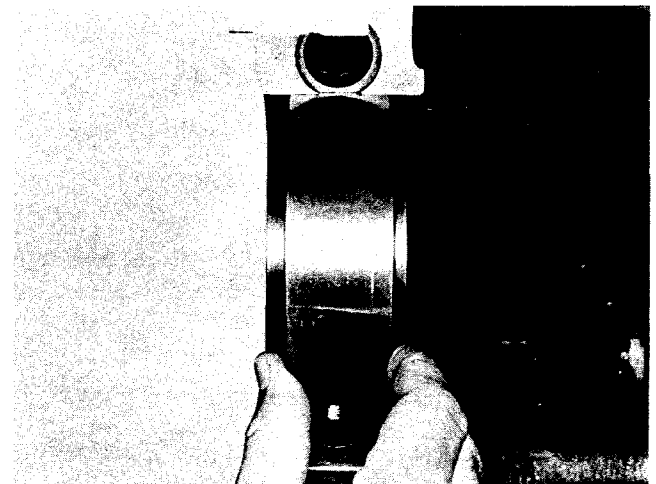

Fig. 1-22, (N101119). Installing centering ring
1. Install centering rings in No. 1 main bearing and thrust bearing saddles. The centering ring in the thrust saddle should be centered in saddle (Fig. 1-22) such that it will clear tool holder when cutting thrust bearing surface.